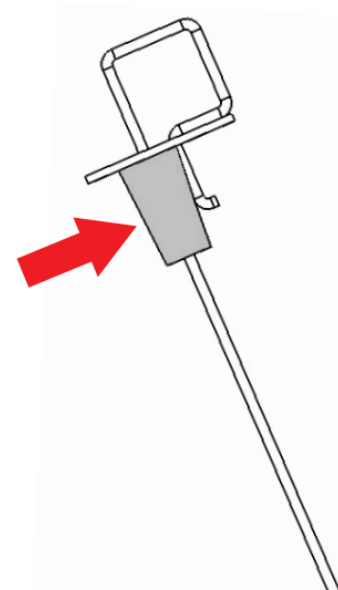

Figure 9
3. Remove the rubber plug, shown in Figure 9 from the dipstick and discard.